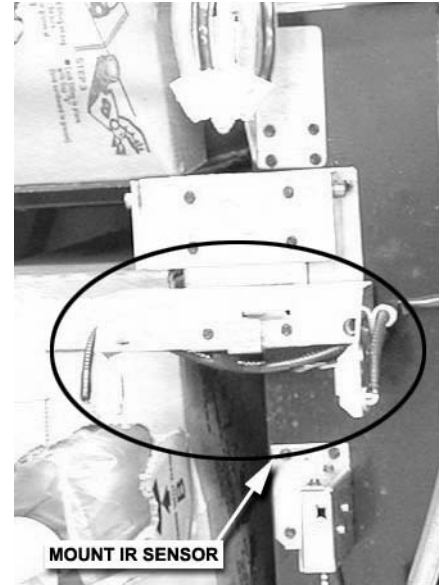

Figure 2
- a. Mount the IR Remote Bracket Assembly as shown (See Figure 2) with the nuts and screws provided.